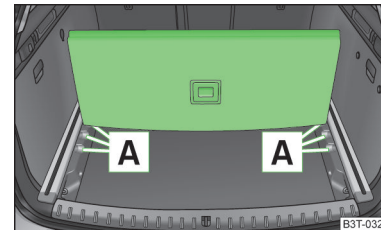

Fig. 113
- Insert the trailing edge in one of the openings **A** » Fig. 113.